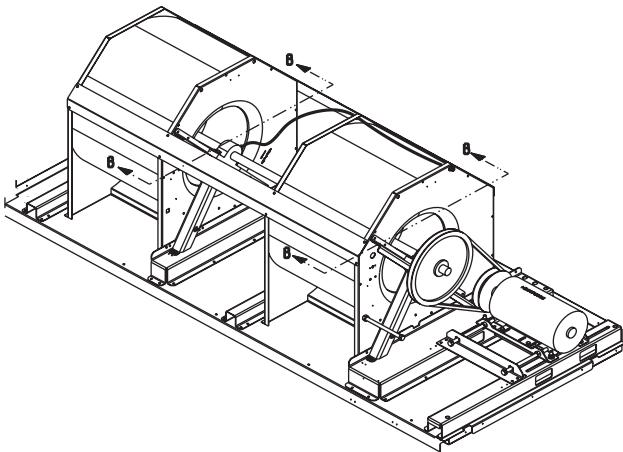

Fig. 4 — Belt Drive Motor Mounting
is on the motor. The pulleys are connected using a "V" type belt. (See Fig. 4.)
2. Loosen belt by loosening fan motor mounting nuts. (See Fig. 4.)